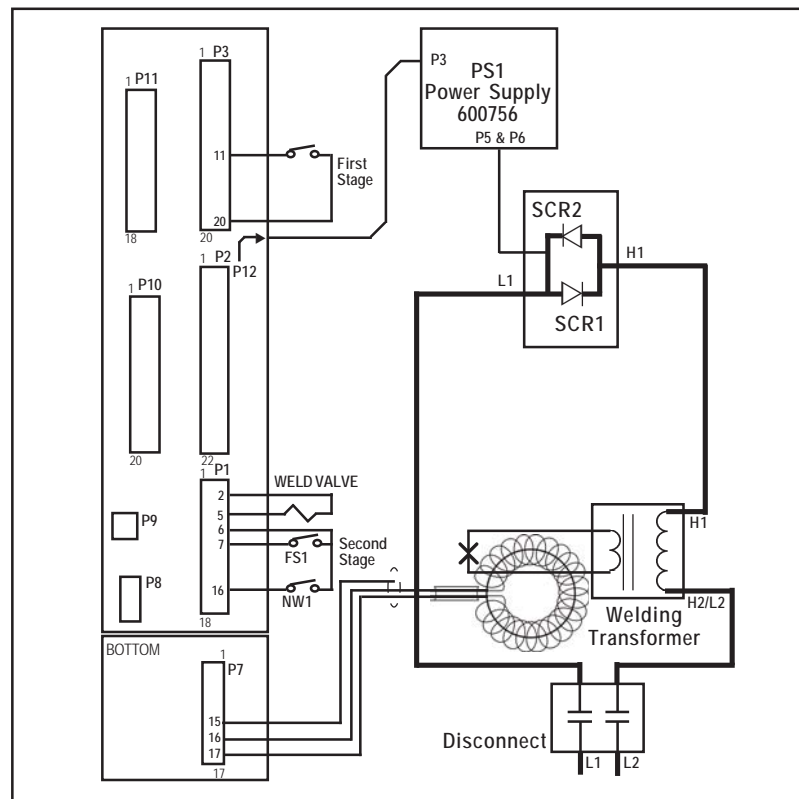

Figure 6-1. *Basic connections*
1. Make basic connections as shown in Figure 6-1. Additional connections (see Section 4.4.3) may be needed, depending on installation requirements, but connections shown are the most basic which are required in order to run equipment. For your convenience, many electrical and mechanical connections have been performed at the factory. Refer to Wiring Diagram for other connections.
5. Place the control in No Weld. Use either RPP2's WELD/NO WELD feature (see Section 5.1) or External Weld/No Weld Switch connected to Terminal Strip between NW1 and FSC (see Figure 6-1).